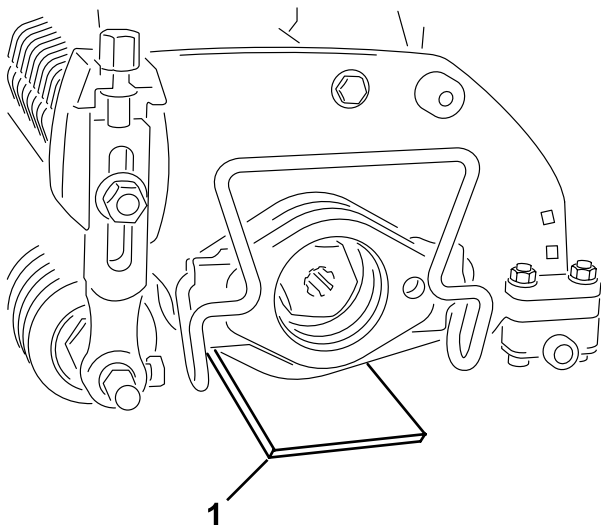

Figure 3
2. Place a gauge bar, which has the desired height of blade above ground, under each end of the dethatching unit (Figure 3).